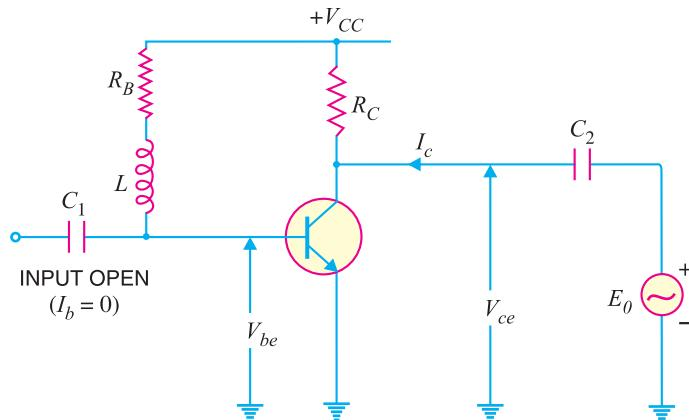

Fig. 24.15 (ii)
**(ii) Determination of  $h_{re}$  and  $h_{oe}$ .** In order to determine these two parameters, the input is a.c. open-circuited, a signal generator is applied across the output and resulting  $V_{be}$ ,  $V_{ce}$  and  $I_c$  are measured. This is illustrated in Fig 24.15 (ii). A large inductor  $L$  is connected in series with  $R_B$ . Since the d.c. resistance of inductor is very small, it does not disturb the operating point. Again, a.c. current cannot flow through  $R_B$  because of large reactance of inductor. Further, the voltmeter used to measure  $V_{be}$  has a high input impedance and hence there are no paths connected to the base with any appreciable a.c. current. This means that base is \*effectively a.c. open-circuited i.e.  $I_b = 0$ .